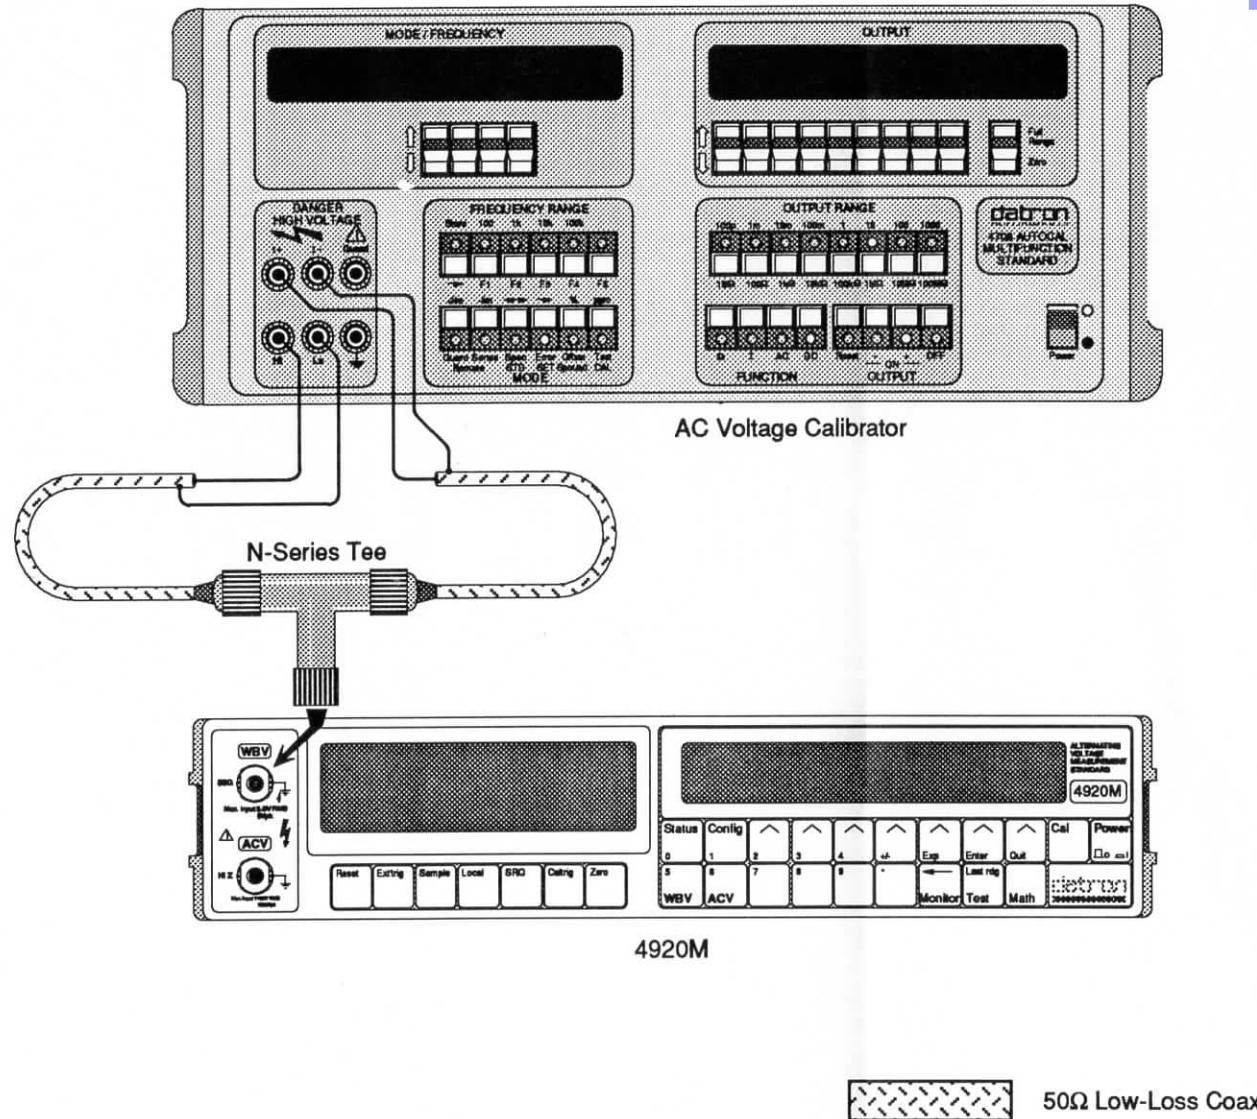

FIG. 7.3 WBV LOW FREQUENCY FULL RANGE PERFORMANCE VERIFICATION - INTERCONNECTIONS
1. Connect the AC voltage calibrator to the 4920M as shown in Figure 7.3 and select the 4920M's WBV function.